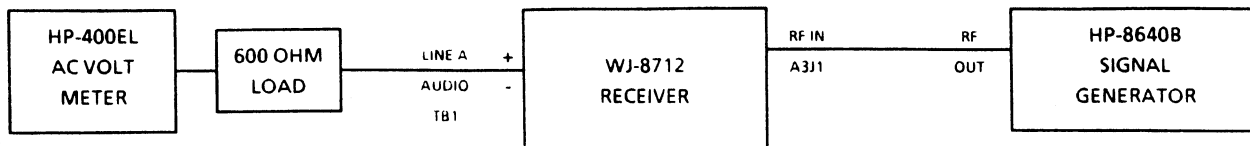

Figure 7-5. Audio Distortion Performance Test Equipment Connection
1. Connect the WJ-8712 Receiver and test equipment as illustrated in Figure 7-5.